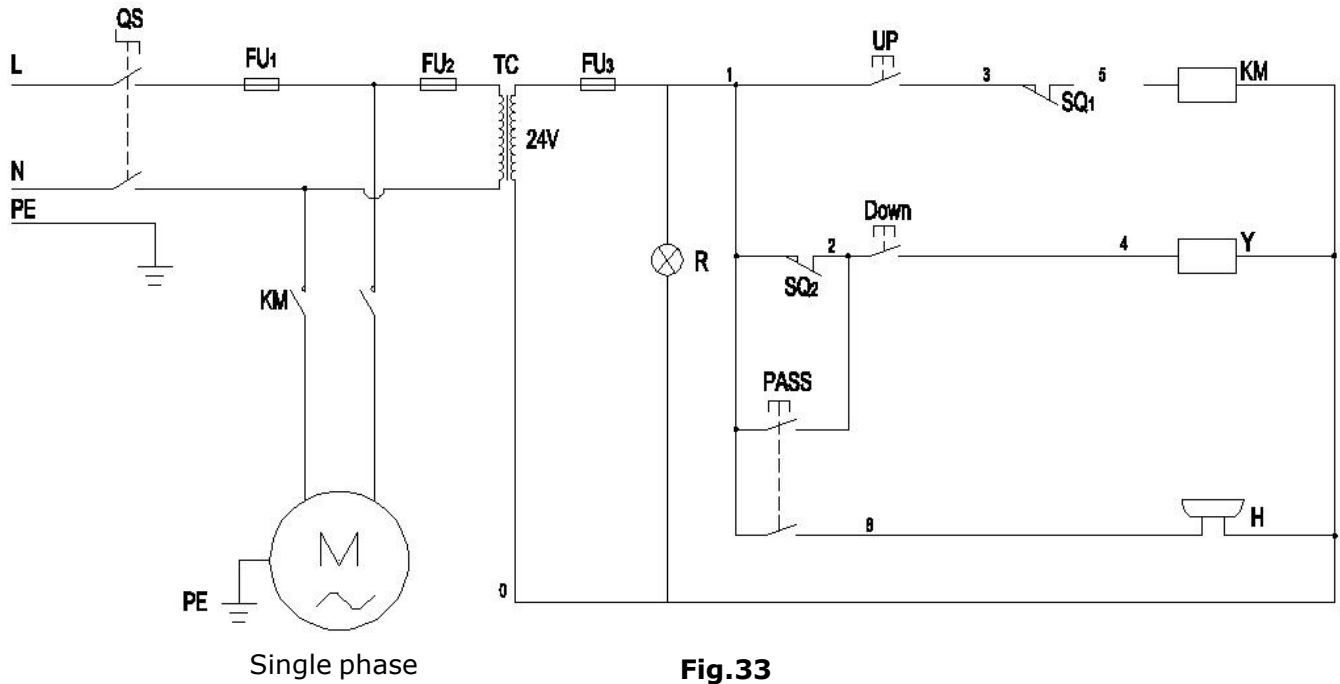

Fig.33
3.3 220V Circuit diagram (See Fig. 33)